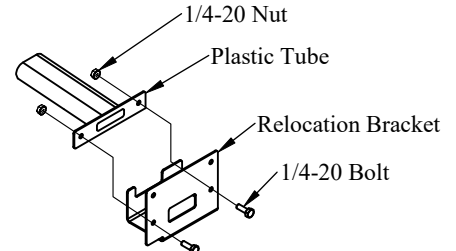

Figure 7: Spare tire crank tube.
7. **Install** the plastic spare tire crank tube onto the relocation bracket using 1/4-20 bolts and nuts (Figure 7).